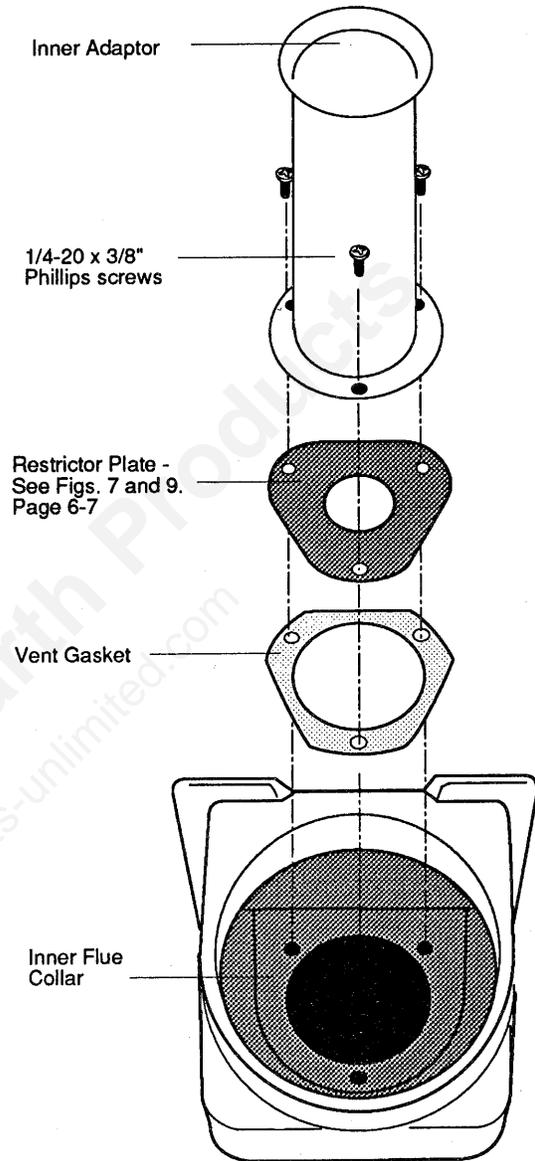

Figure 25. Secure the Inner Adaptor to the flue collar.
Step 2. Attach the Inner Adaptor Pipe to the stove with three 1/4-20 x 3/8" Phillips screws (see parts bag). Fig. 25.